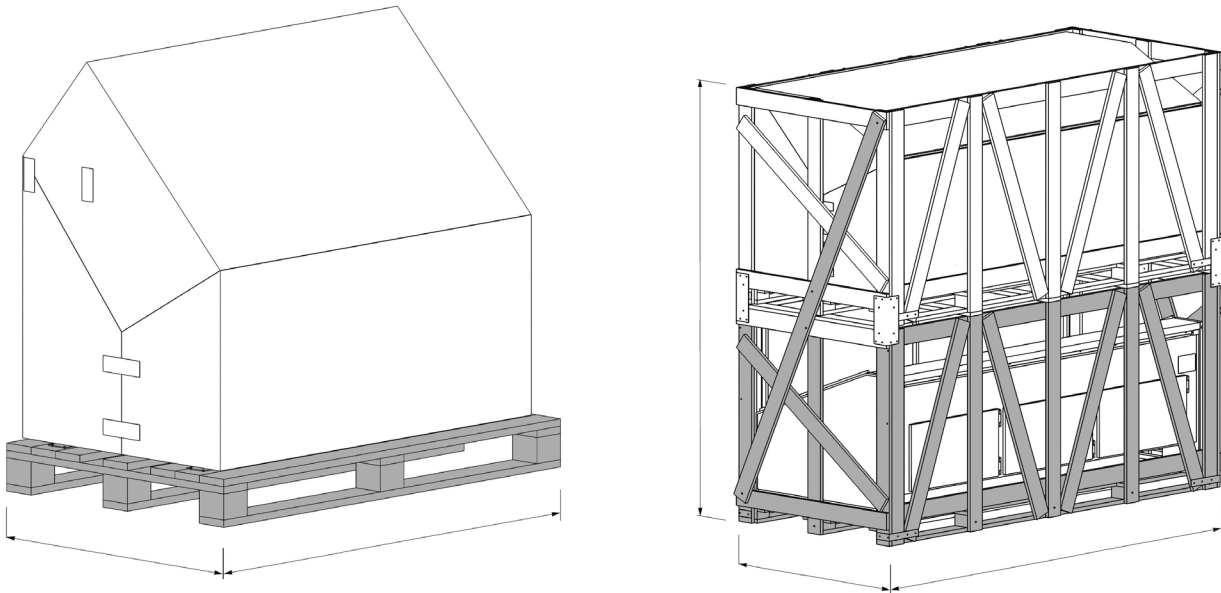

Fig. 23. Package, wooden frame
- check the integrity of the package (Fig. 23);